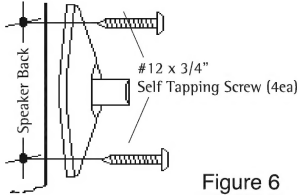

Figure 6
- 16. Drill the pilot hole(s) using a 1/8" drill bit. This hole(s) should not be drilled more than 1/2" depth (Figure 6).